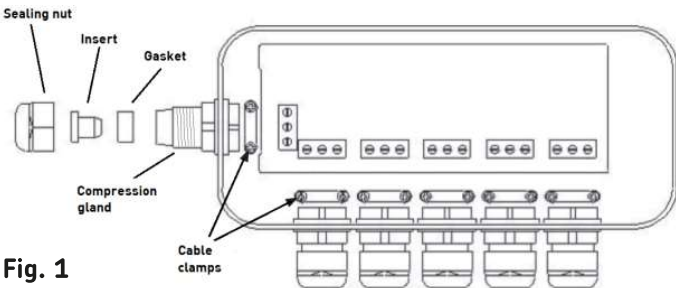

Fig. 1
- Unscrew the sealing nut from the compression gland (see Fig. 1) and fit it over the supply cable